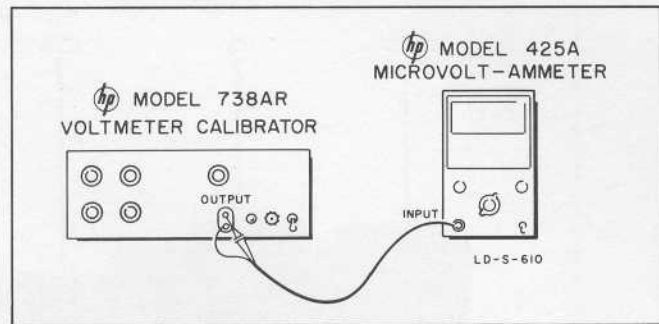

Figure 5-8. Voltmeter Calibration Test Setup (1 VOLTS through .3 MILLIVOLTS ranges)
- e. Connect Model 425A to voltmeter calibrator as shown in figure 5-8.
a. Connect Model 425A to the voltmeter calibrator as shown in figure 5-8.